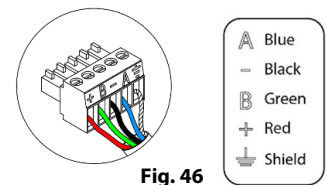

Fig. 46
It has a 5-pin terminal to connect it to the Airzone Connection Bus of the main board ③. Attach the wires with the terminal screws following the color code (Fig. 46).